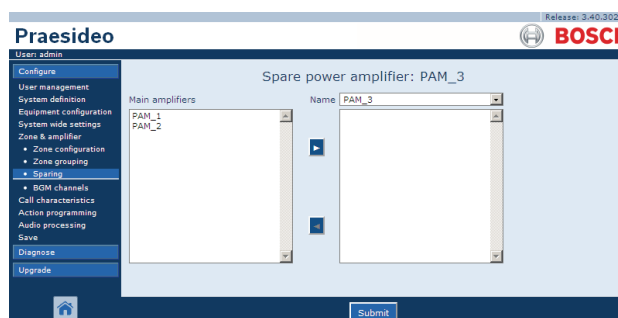

figure 46.12: Sparing, step 2
- 2 Select the spare amplifier to which the main amplifier must be assigned from the *Power Amplifier* dropdown list. For example, *PAM\_04* (see figure 46.12).